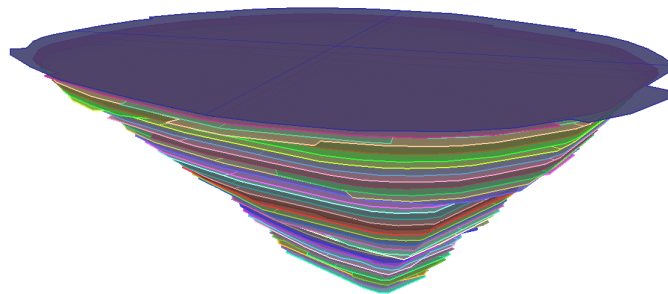

Figure 121: Perspective view of all the planar surfaces (colorized) representing the benches.
20. After all the contours have been traced and turned into surfaces, type **_Show** (to show all hidden objects). Select everything (**Ctrl-A**) and **_ColorizeObjects** to colorize the selected objects (Figure 121). Save the model as **Tut6A.3dm**. **3dm** is the native Rhino file format.